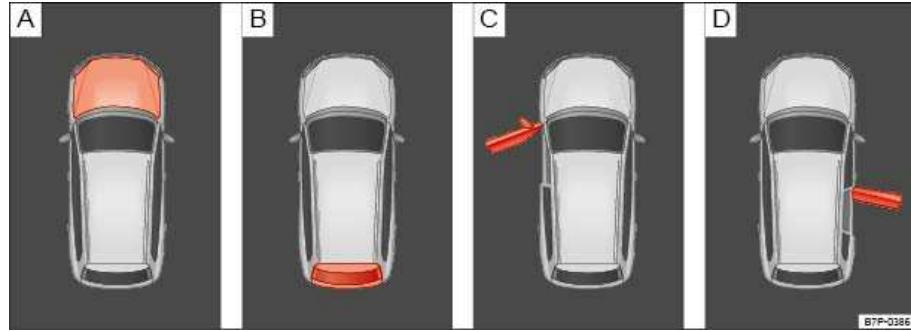

Fig. 15 In the instrument cluster display: A: Open engine hood, B: Open rear hatch, C: Open front driver side door, D: Open rear passenger side door.
- Open door, engine hood, or rear hatch ⇒ fig. 15.